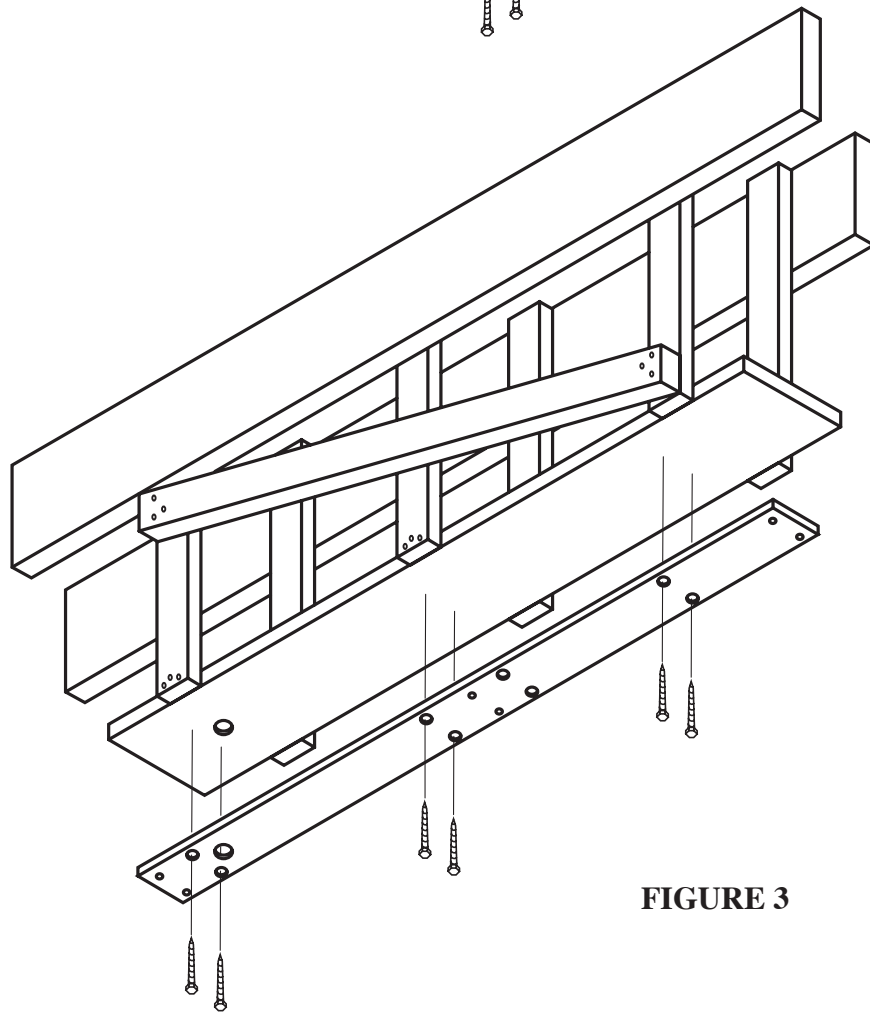

FIGURE 3
- C) For suspended ceilings, appropriate rigid structure must be attached to the ceiling framework to provide 200 lb. dead weight capacity. (SEE FIGURE 3.)